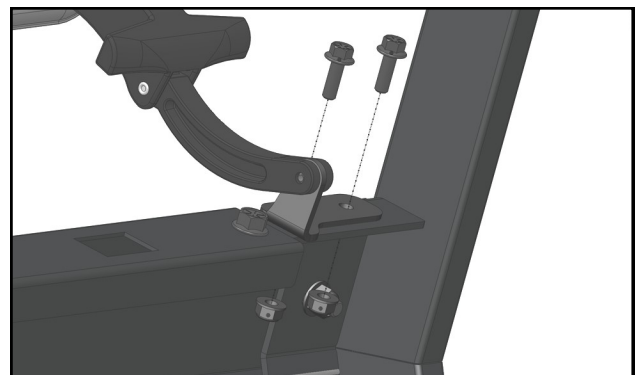

Fig. 7.2 (Windshield Latches)
- 7.2** Secure the windshield latches to the A-pillars. With the latches open, tighten latch hardware. See Figure 7.2